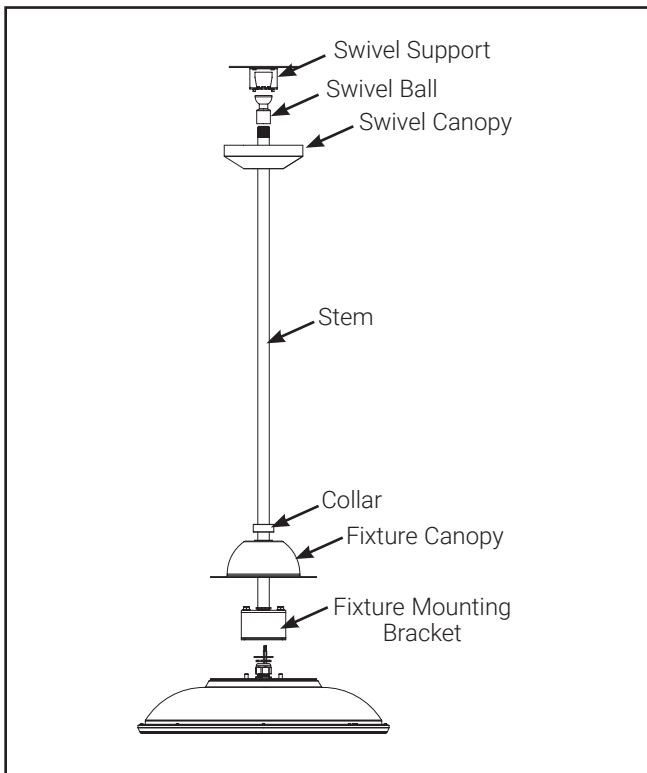

Figure 7
2. Place fixture canopy, collar, and swivel canopy on stem shown in **FIG. 7**.